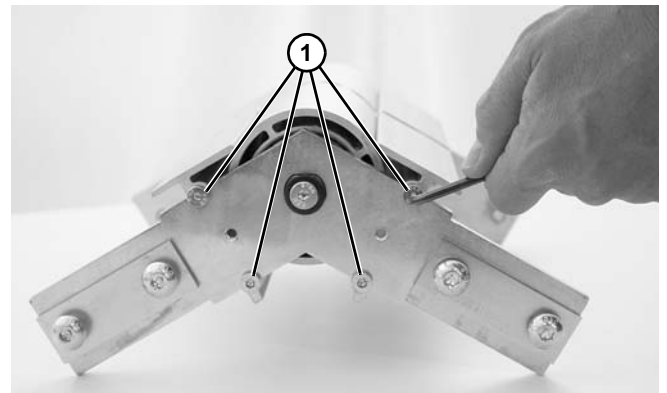

Figure 96
5. With knuckle assembly on an open work surface, remove four screws (Figure 96, item 1) from one side of knuckle assembly.